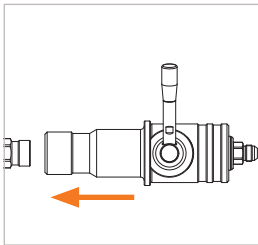

Figure 10
- ▶ Push the WEH® Service receptacle into the fueling nozzle until it stops and hold the nozzle in this position (OFF position) (Figure 10).